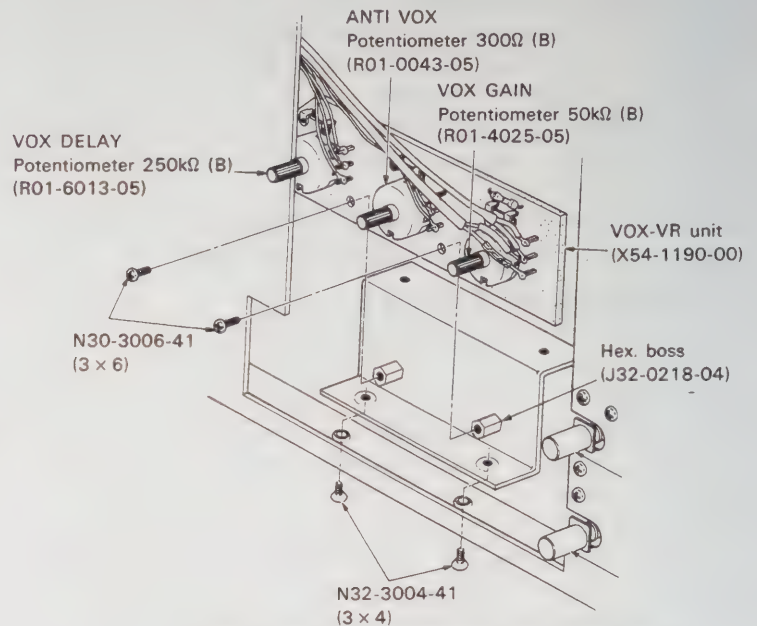

Fig. 17(a) Removing the VOX - VR unit
- 3) Remove from the subpanel the chassis, on which the VOX/VR unit is mounted, according to **Fig. 17** and detach the unit.